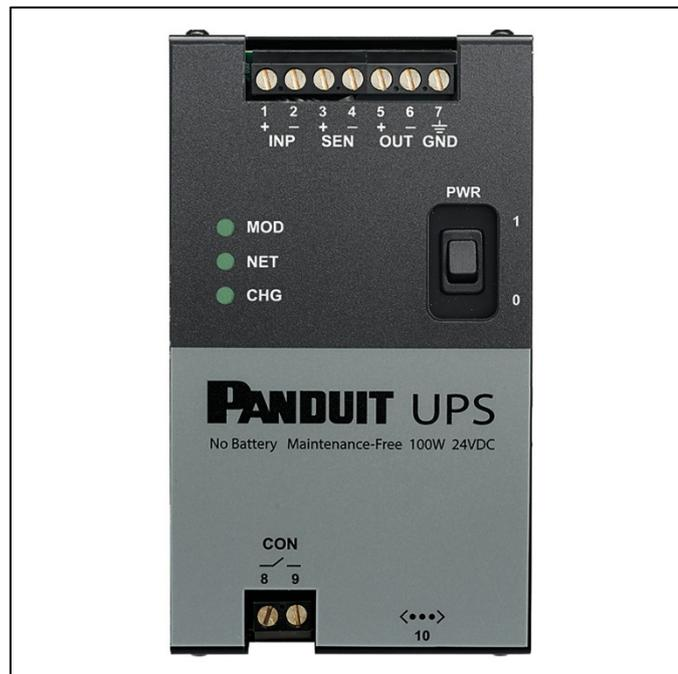

Figure 1: Front view of UPS
- Figure 1: Front view of UPS5
Figure 1 shows a photo of the UPS system excluding the optional load sense module.